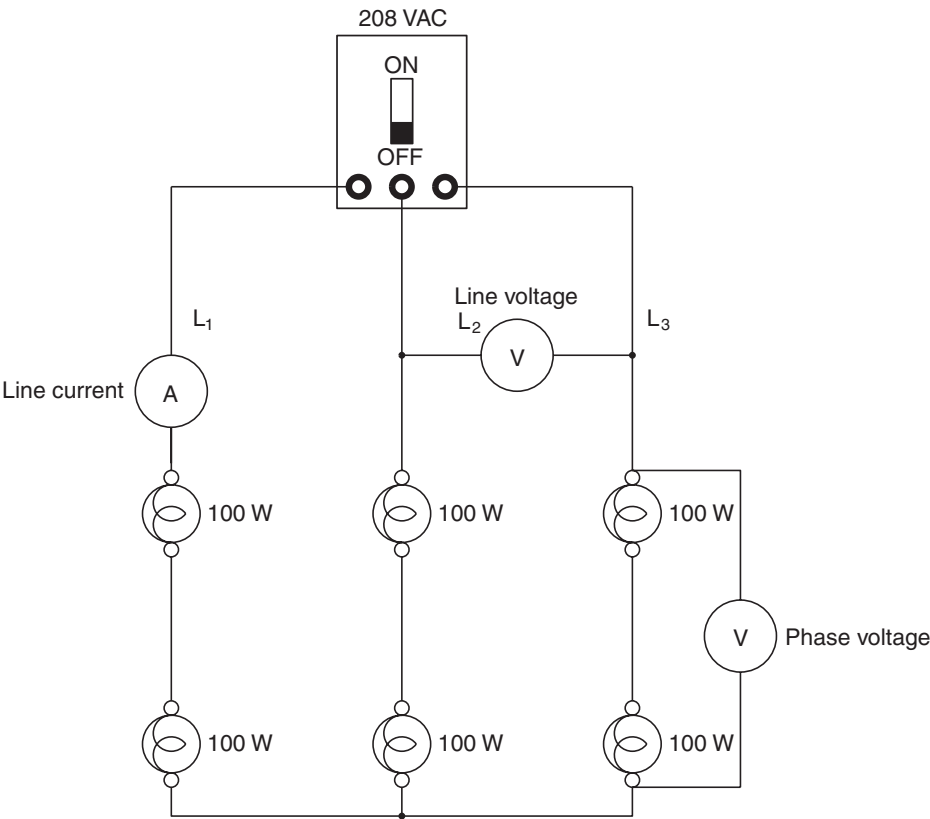

Figure 23-20 Measuring the line current in a wye connected load.
1. Connect the two 100 watt lamps in series to form three separated load banks. Connect the load banks in wye by connecting one end of each bank together to form a center point, as shown in Figure 23-20. It is assumed that this load is to be connected to a 208 VAC three-phase line. Connect an AC ammeter in series with the line supplying power to the load.